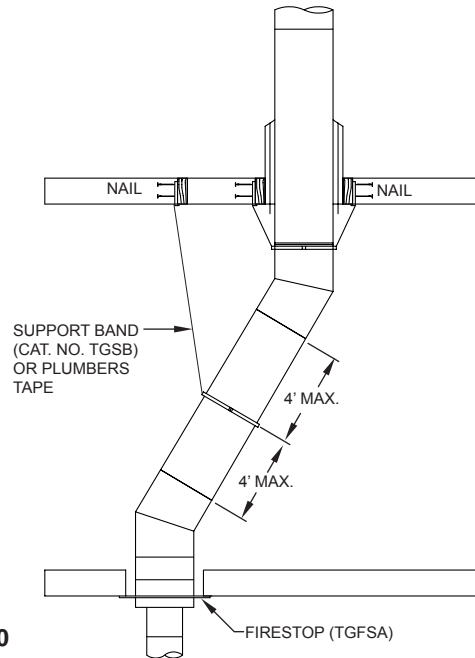

FIG. 20
2. Attach the elbow to the chimney pipe or other support part and twist to lock. Using the offset chart, add chimney sections between elbows. A support band (TGSB) is required at the upper elbow of the pair to support the load, as shown in FIG. 20. Attach the upper elbow to bring chimney back to vertical.